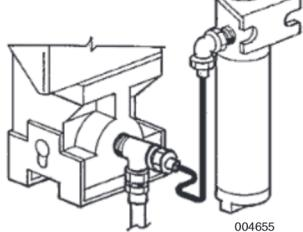

FIGURE 60
► Note: Two air cylinders are necessary only if the old style pulley tee, Part No. 15342, is utilized. If new style pulley tee, Part No. 427929, is utilized, only one air cylinder is required. Individual wire ropes can be run from each gas valve to a single air cylinder. See Figure 60.
► Wrench tighten. See Figure 60.